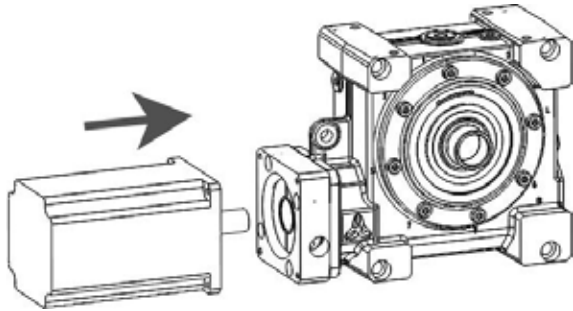

Fig 6.3
- Ü Position the motor so that the plane surfaces fit together. (fig. 6.3)